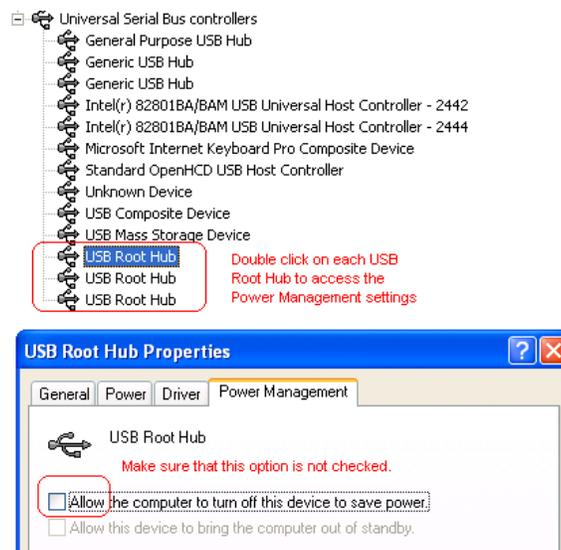

Figure 1 Device Manager Window, Hardware Tab, Viewed by Type
2. From the System Control Panel, disable Power Management for all USB Root Hubs listed. Uncheck the "Allow the computer to turn off this device" box for all USB Root Hubs listed. See Figure 1.
However, if users or administrators hot-swap cables on the C/Port, including using a Switching Backpack to reassign either the Blade or the C/Port, incorrect USB power settings can cause the C/Port to become inaccessible. If the USB Root Hubs are set to “save power” (see Figure 1), the system may recognize the momentary disconnection of any USB device to mean that all USB devices have been disconnected, including the C/Port itself. Thus, all control at the C/Port can be lost completely until the system is rebooted locally.
The likeliest culprit among the USB Root Hubs is the third hub in the list shown in Figure 1. This list typically has either three or four hubs. The third hub *must* remain unchecked. This hub can become checked without notice when one of the following situations occurs: